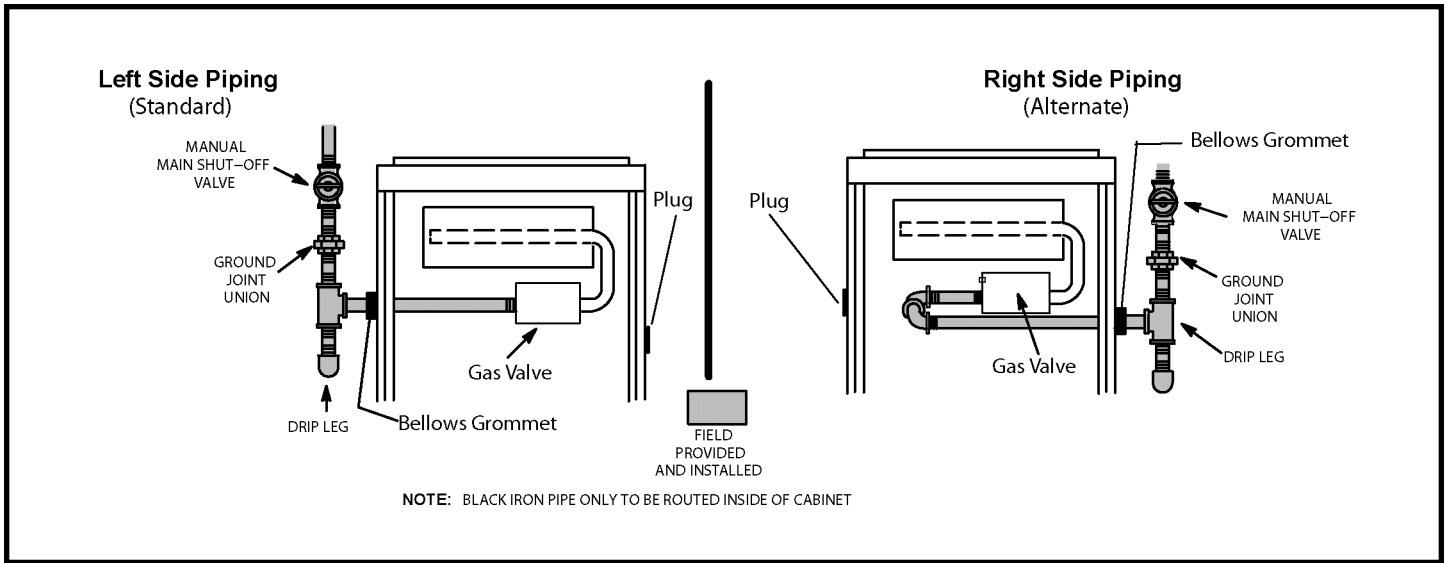

Figure 59
3. Gas piping must not run in or through air ducts, clothes chutes, chimneys or gas vents, dumb waiters or elevator shafts. Center gas line through piping hole. Gas line should not touch side of unit. See Figures 59 and 60.